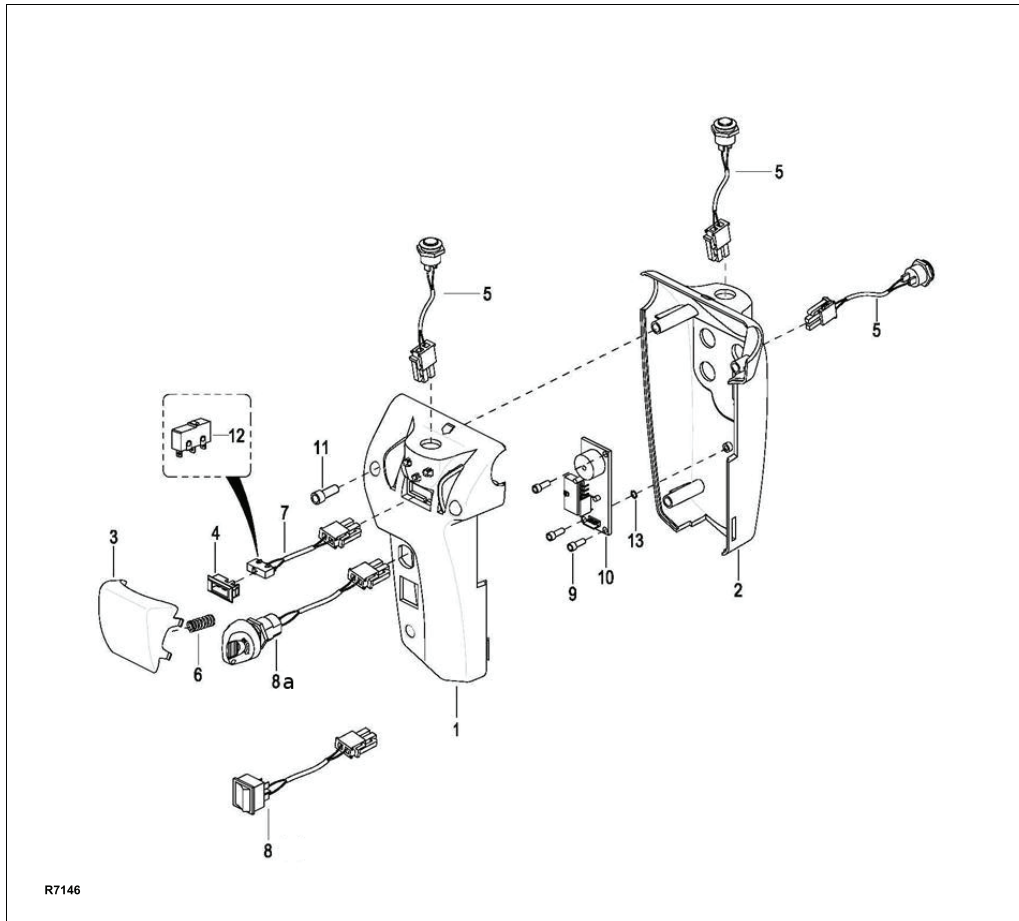
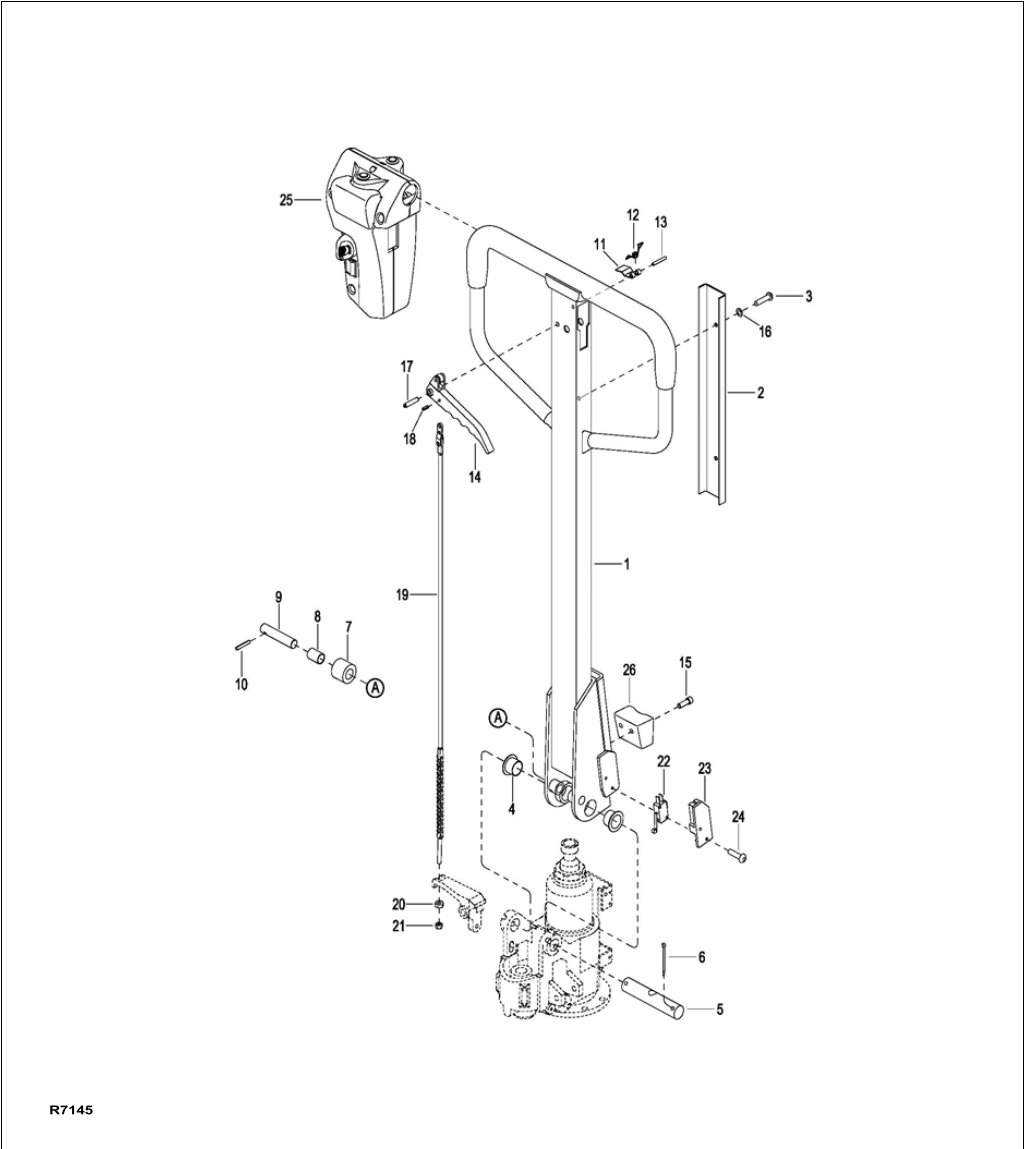
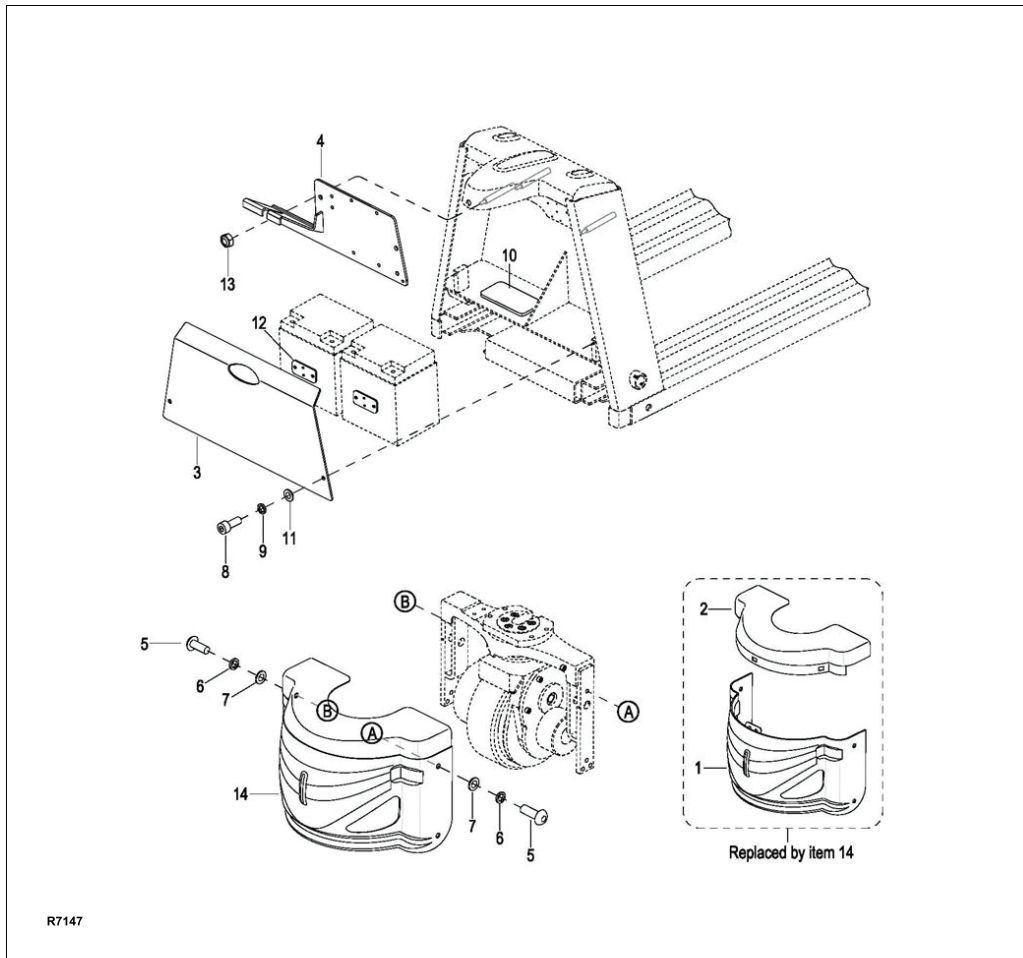

Figure 5-1 Control Head
Figure 5-2 Control Handle
Figure 5-3 Compartment Cover
1. Turn off the power switch (8, Figure 5-1) or key switch (8) depending what is on the truck.
2. Remove three screws (11) and separate cover (1) and cap (2) from control handle (1, Figure 5-2).
3. Tag and disconnect harness (1, Figure 12-11) from switches (5, 7 and 8, Figure 5-1).
1. Reconnect harness (1, Figure 12-11) to switches (5, 7 and 8, Figure 5-1).
2. Position cover (1) and cap (2) on control handle (1, Figure 5-2) and secure with three screws (11, Figure 5-1).
3. Turn on the power switch (8) or key switch (8) depending what is on the truck.
2. Remove button (3, Figure 5-1) and springs (6) from cover (1).
3. Remove bracket (4) from cover (1) and remove switch (7).
4. Unsolder harness from switch (12).
5. Solder harness to new switch (12).
6. Position new switch in bracket (4) and install in cover (1).
2. Remove reverse switch (5, Figure 5-1) from the top of cover (1).
3. Position new switch (5) in cover (1)
2. Remove optional key switch (8, Figure 5-1) from the back of cover (1).
3. Position new switch (8) in cover (1)
2. Remove power switch (8, Figure 5-1) from the back of cover (1).
2. Remove horn switch (5, Figure 5-1) from the front of cap (2).
3. Position new switch (5) in cap (2)
2. Remove forward switch (5, Figure 5-1) from the top of cap (2).
2. Remove cover (2, Figure 5-3).
3. Remove four screws (5), four lock washers (6) and four flat washers (7)
4. Remove cover (1).
1. Place cover (1, Figure 5-3) into position.
2. Secure with four screws (5), four lock washers (6) and four flat washers (7).
3. Turn on the power switch (8, Figure 5-1) or key switch (8) depending what is on the truck.
2. Remove cover (2, Figure 5-2) from control handle (1).
3. Remove nuts (21 and 20) from rod (19).
4. Remove pin (17) and remove control lever (14) with rod (19).
5. Remove pin (13) to remove spring (12) and leaf spring (11) from control handle (1).
6. Remove pin (18) to free rod (19) from lever (14).